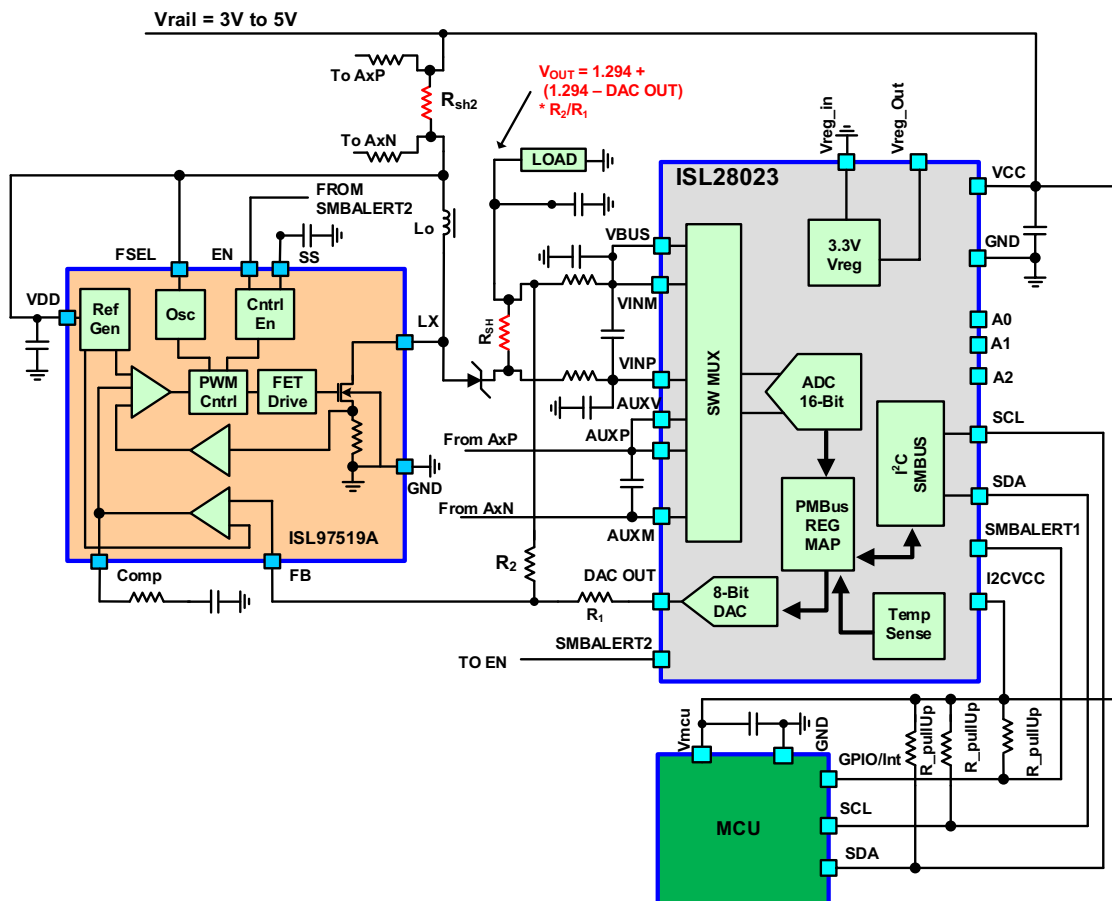

FIGURE 16. GENERIC POL CIRCUIT USING A BOOST CONVERTER AND THE ISL28023
The circuit in Figure 16 is a generic circuit that boosts the input voltage to a set output voltage that is dependent on the 8-bit DAC inside the ISL28023. The ISL97519A can boost input voltages from as low as 2.3V to 25V. The circuit in Figure 16 is able to boost input voltages from 3V to 25V. This is due to ISL28023 minimum supply voltage.
The circuit in Figure 16 is designed with two shunt resistors (R_{SH1} , R_{SH2}) to measure the efficiency, η , of the regulator. R_{SH2} resistor measures the total current to the regulator and the load. R_{SH2} is connected to the auxiliary channel of the ISL28023. The auxiliary channel can accept voltages from 0 to V_{CC} of the ISL28023. A basic filter is designed between the R_{SH2} and the auxiliary input. The filter may not be required depending on the desired accuracy of the measurement, and the signal purity from the input source, V_{rail} .
- For Figure 16, the input voltage is between 3V and 25V.